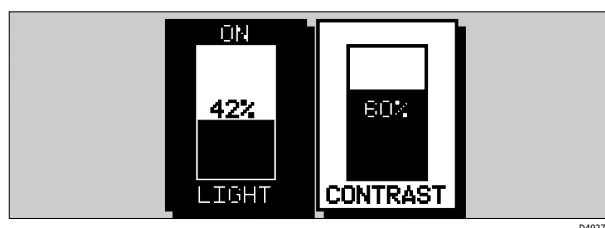

Figure 2-4: Lighting Controls
1. Press the **POWER** key to display the lighting controls (*Figure 2-4*).